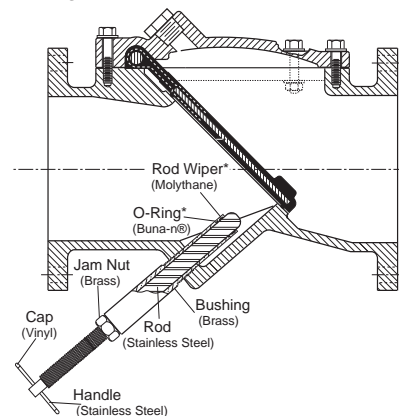

FIG. 3. BACKFLOW ACTUATOR ASSEMBLY
- 4 Lubricate two new seals with FDA approved grease such as Lubriko #CW-606 and install in bushing end grooves. Note part location on Fig. 3.